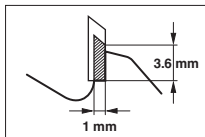

Figure 1 Minimum dimension of composite circular saw blade tips.
3. Composite (tipped) circular saw blades, where the tip dimension is reduced to 1 mm, shall be taken out of service. Refer to Figure 1.